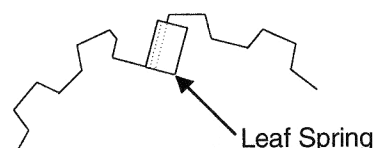

Fig. C-7
1. Remove fan cover (12).
2. For models FB-5B and -8B remove set pin (13) and fan (14). For models FB-10B and -15B remove set screw (13) and fan (14).
3. Remove all three nuts (8).
4. Remove brake shoe (15) and take out brake lining (9).
5. Fix leaf spring (22) as shown in Fig. C-7.
7. Fit a new brake lining (9) onto hub (10); check to ensure that the lining moves smoothly. Remove excess grease.
8. After completion of brake assembly, measure gap G. If the gap is out of specification range, adjust by rotating gap adjusting nut (8).
9. Check for brake performance by turning system power on and off a few times. If no abnormalities are detected, replace fan (14), set pin or screw (13) and cover (12).